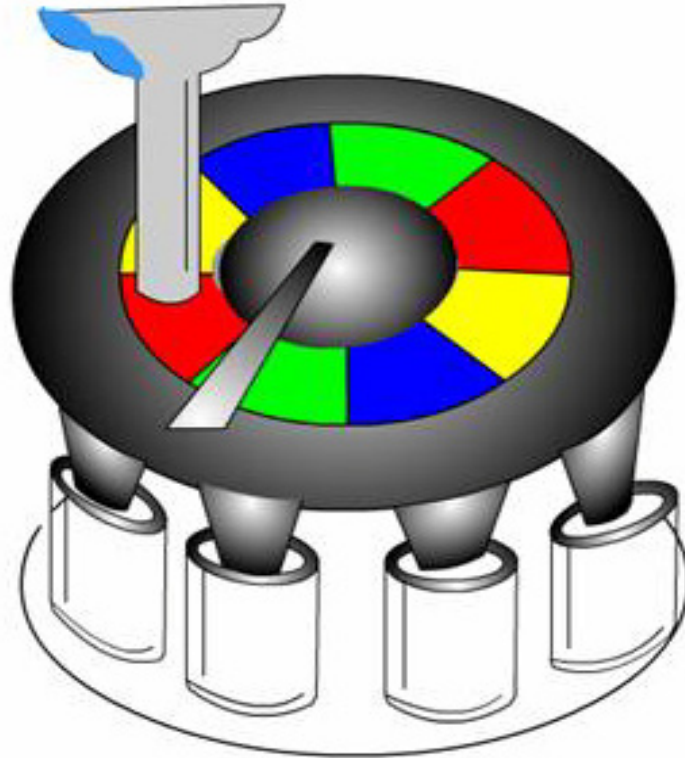

Figure 20.22 Flooding or Constant Stream Filler
- The fillers work on the principle that containers passing under a constant stream of product in the same amount of time will all receive the same amount of product (Figure 20.22).